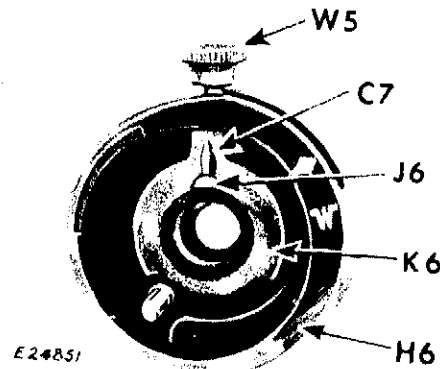

Fig. 136. Indicator Plate Reassembled
6. Place indent plate **K6** over hub of retaining plate with notch **C7** facing out, as shown in Fig. 136.
7. Fit small brass clamping pad **J6** in recess between indent plate **K6** and hub of retaining plate, as shown in Fig. 136.